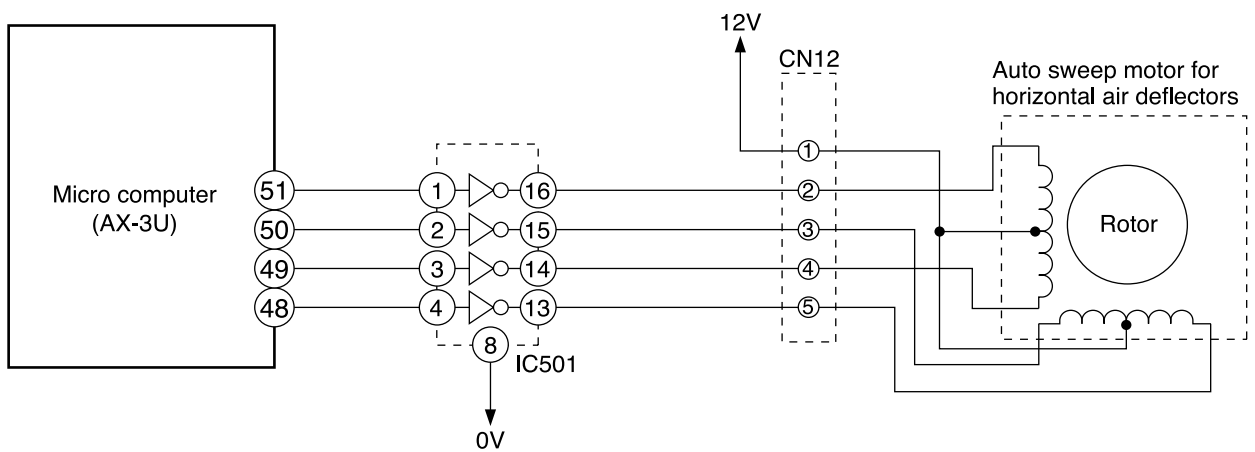

Fig. 7-1 Auto Sweep Motor Circuit (Horizontal air deflectors)
- Fig. 7-1 shows the Auto sweep motor drive circuit; the signals shown in Fig. 7-2 are output from pins ④⑧ – ⑤① of the micro computer.